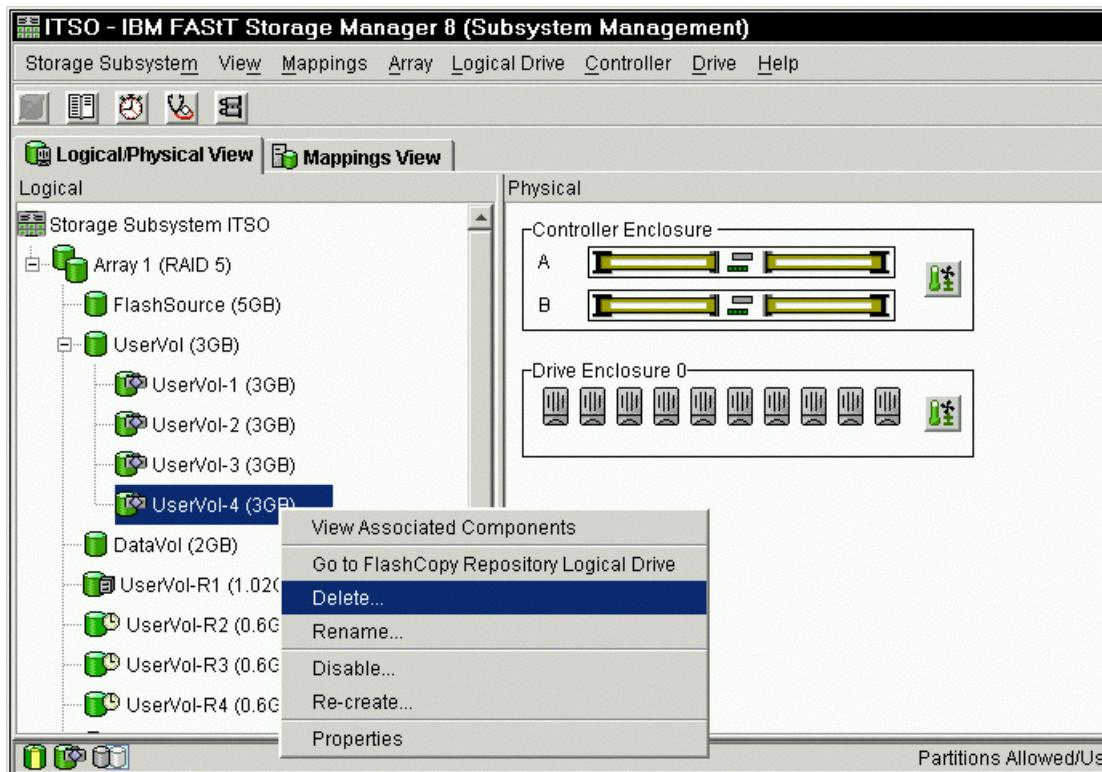

Figure 5-31 Deleting the FlashCopy logical drive
- Click **Logical Drive-> Delete**, or right-click and select **Delete**, as shown in Figure 5-31.